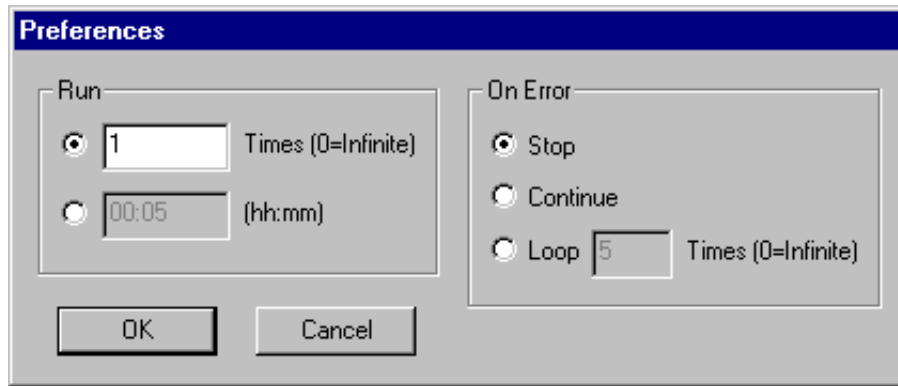

Figure 4-6. Preferences Dialog Box
**Options** - The Options menu consists of a single item - **Preferences**. Selection of this item brings up the Preferences dialog box shown in Figure 4-6. This dialog box allows you to select certain parameters which apply to all diagnostic tests when executed. The box consists of a **Run** panel and an **On Error** panel.